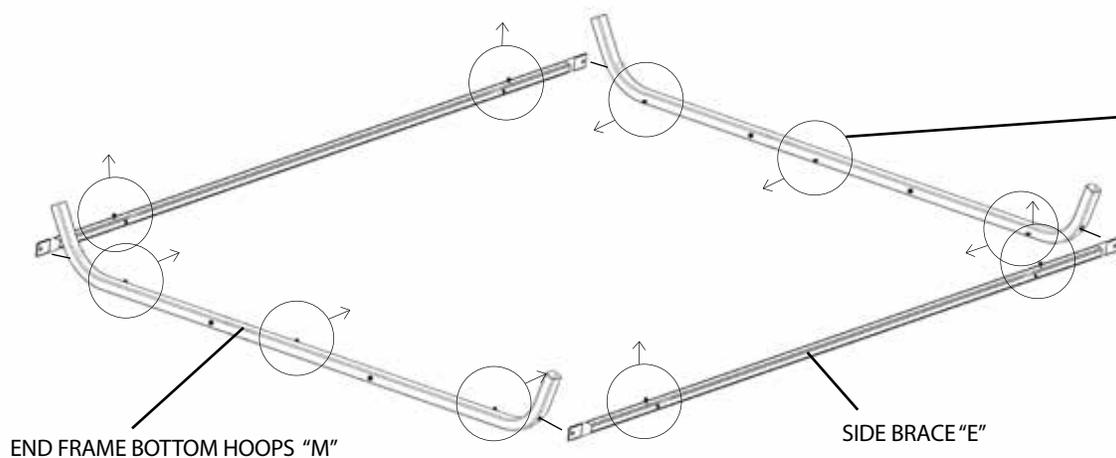

Figure 10.1
STEP 2: Locate the (2) END FRAME BOTTOM HOOPS "M" and (2) SIDE BRACES "E". Using the hardware connection in (4) places, align and fasten the whole ends of the (2) SIDE BRACES "E" with the corresponding wholes in the (2) END FRAME BOTTOM HOOPS "M", as illustrated in Figure 10.1, fastening with the hardware (4) 1.5" Bolts and (4) Nuts.
NOTE: Make sure the (6) Set Screws already installed in the (2) END FRAME BOTTOM HOOPS "M" are facing towards the interior of the blind, as illustrated in Figure 10.1 & 10.2. The (4) Set Screws in the (2) SIDE BRACES "E" need to be facing up, as illustrated in Figure 10.1.